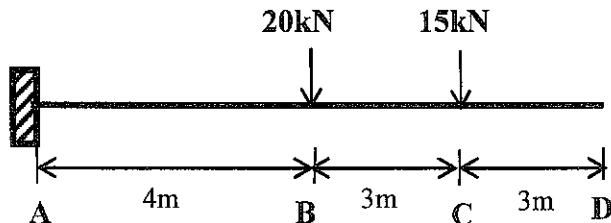

Figure A2 (c) / Rajah A2 (c)
- ii) Beam of rectangular cross-section as shown in Figure A2 (b) (ii) below is subjected to a maximum shear force of 30 kN. Determine the shear stress at a distance of 50mm from the neutral axis.
Sebuah rasuk berkeratan rentas segiempat seperti ditunjukkan dalam Rajah A2 (b) (ii) dibawah dikenakan tegasan ricih maksimum 30kN. Tentukan daya ricih pada jarak 50mm dari paksi neutral.*Figure A2 (b) (ii) / Rajah A2 (b) (ii)*
- (c) A cantilever beam is subjected to a load as shown in **Figure A2 (c)** by using area moment method. Given: $A_y = 35 \text{ kN}$; $M_A = 185 \text{ kNm}$.